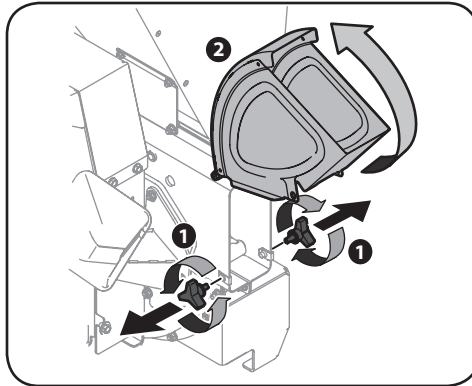

Figure 5-1
2. If attached, remove debris bag. Remove the two wing knobs on either side of the chute deflector and pivot the chute deflector upward. See Figure 5-1.